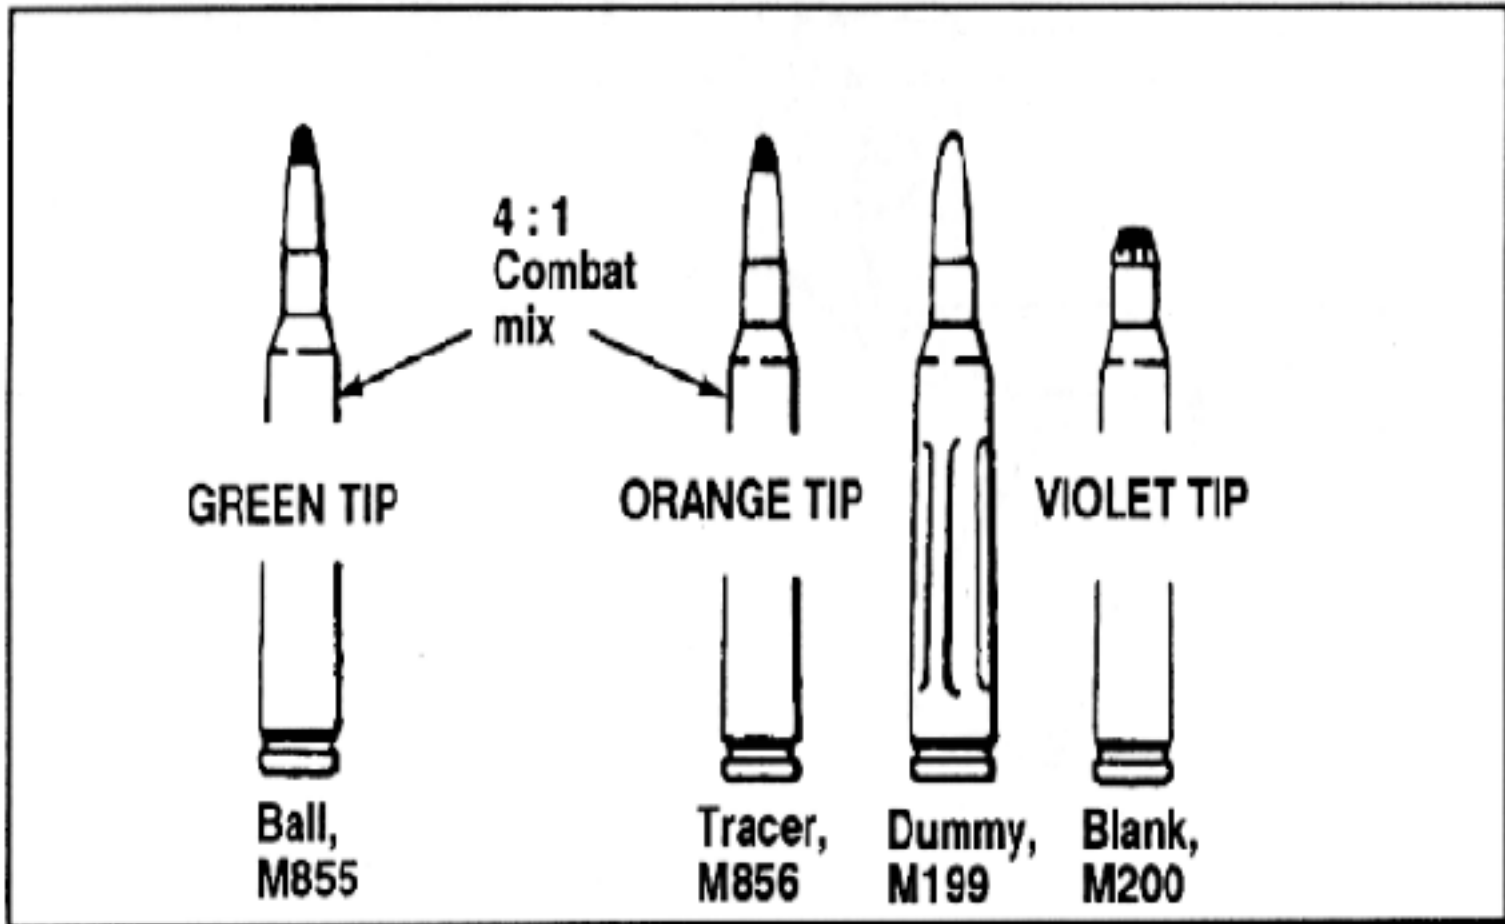

Figure 1-5. Cartridges for the M249.
Figure 1-5. Cartridges for the M249.
a. **Type and Characteristics.** The specific type ammunition (Figure 1-5) and its characteristics are as follows.